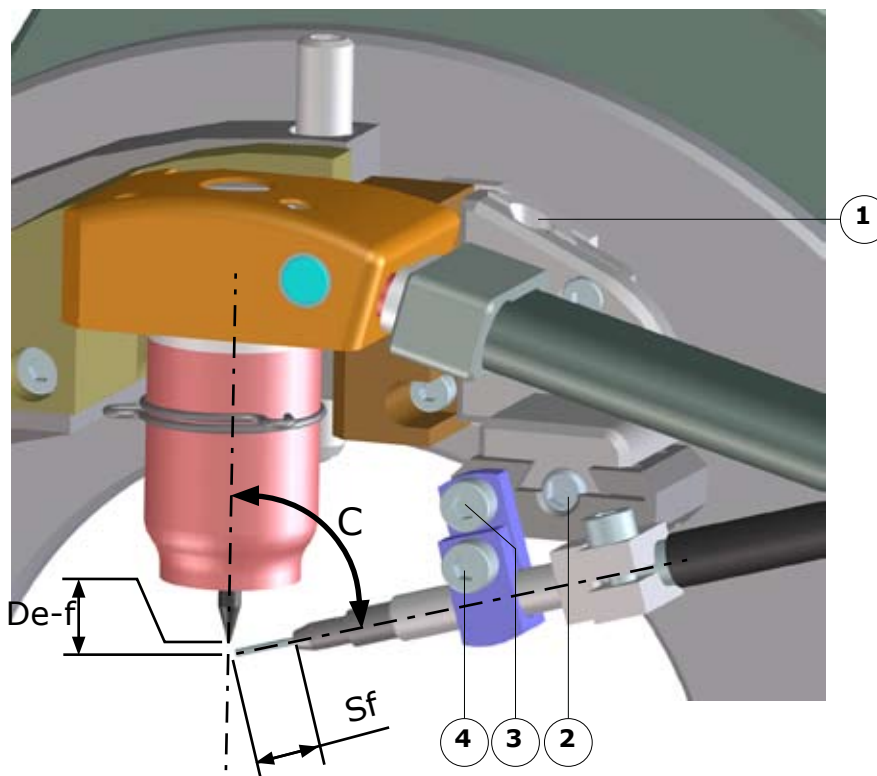

Fig.5.10 - Electrode wire settings
- A vertical runner used to control the altitude ($De-f$) using a screw (Fig.5.10 - 1).
- A transverse runner used to adjust the wire in the same plane as the electrode (or the welding plane) using a screw (Fig.5.10 - 2).
- A screw used to adjust the angle of the wire inlet (C) (Fig.5.10 - 3).
- A screw used to adjust the free length of wire at the small nozzle outlet (S_f) (Fig.5.10 - 4).